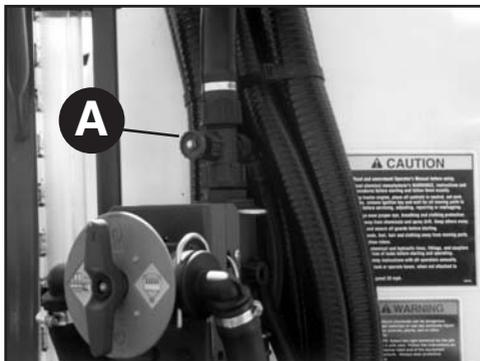

Fig 18
Turning the agitation valve (**A**) (Fig. 18) clockwise will reduce the agitation flow. Turning the valve counter clockwise will increase the agitation flow.
5. Turn the agitation valve **(A)** (Fig. 18) counter clockwise all the way out for maximum agitation.
1. Empty the sprayer as much as possible. Turn the Agitation By-Pass Valve (optional) to the "Pump" position. Turn the agitation valve (**A**) (Fig. 18) clockwise all the way in to close agitation valve and spray until air comes out of all nozzles.
1. Turn the agitation valve (**A**) (Fig. 18) clockwise all the way in to close agitation valve.